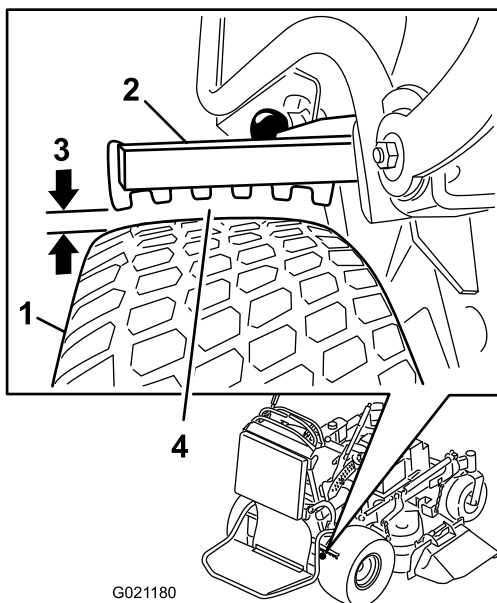

Figure 61
6. Using the side with the smallest clearance, ensure that the distance is between 3 and 6 mm (1/8 and 1/4 inches) as shown in Figure 61; refer to Adjusting the Brakes \(page 45\) if the distance is incorrect.
5. Adjust the yoke (Figure 61).